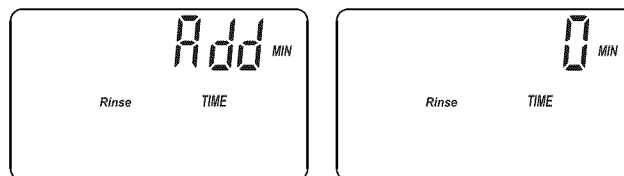

Figure 32
**BACKWASH & FAST RINSE TIMES:** If you experience salty tasting water after regeneration, you may need to increase the backwash and fast rinse times. The cycle times during regenerations are determined by the softener’s electronic controller. However, you may increase the backwash and fast rinse times, in 1 minute increments. If you wish to increase the backwash time, use the  $\Delta$  UP button to add up to 15 minutes to the backwash time. Then press SELECT to display the alternating screens shown in Figure 32.